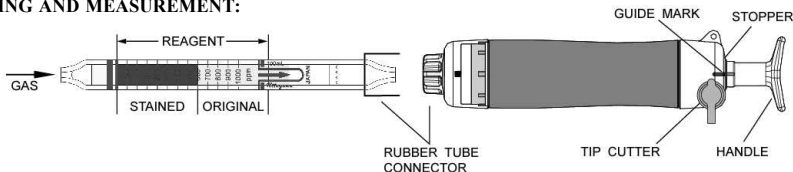

Fig.1
- ② Insert the detector tube into the aspirating pump securely as shown in Fig.1. (Arrow mark shall point to the pump.)
- ③ Align the guide marks on the handle and stopper of the aspirating pump.
- ④ Pull the pump handle at a full stroke until it locks and wait for 3 minutes or until the completion of sampling is confirmed with the flow indicator of the pump. (See descriptions about the flow indicator in the instruction manual of the pump.)
- ⑤ On completion of sampling, read the scale at the maximum point of the stained layer.